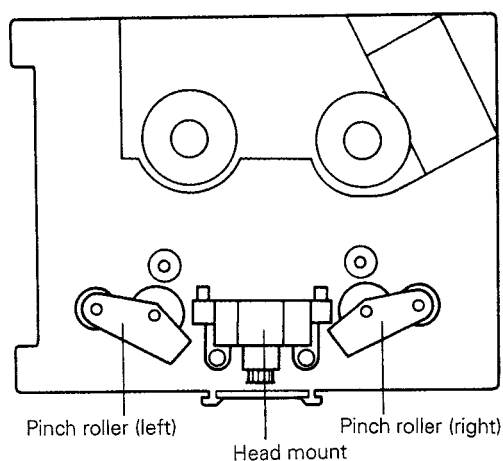
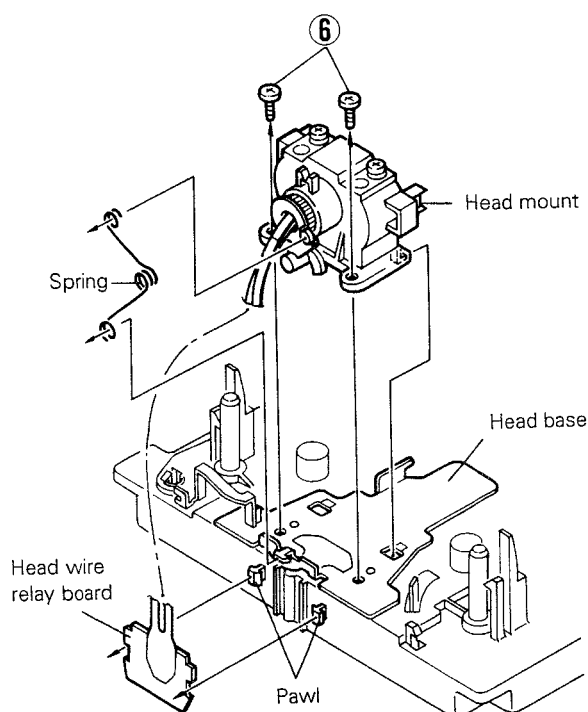
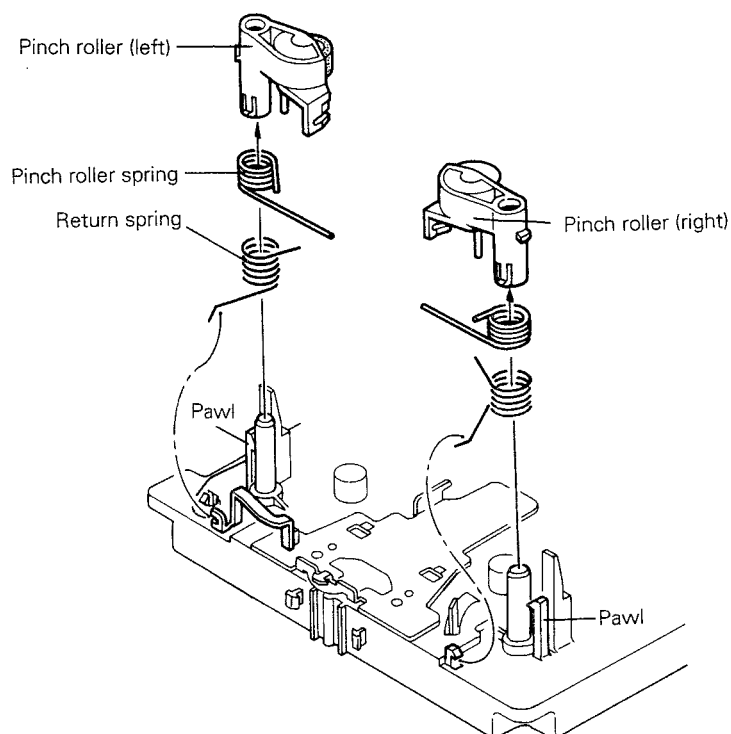

Fig. 7-21
Fig. 7-23
Fig. 7-24
■ Head mount assembly (Fig. 7-21, Fig. 7-23)
2. Remove two screws ⑥ retaining the head mount ass'y from the head base.
3. Remove the head gear (1) and head spring.
■ Pinch roller assembly (Fig. 7-21, Fig. 7-24)